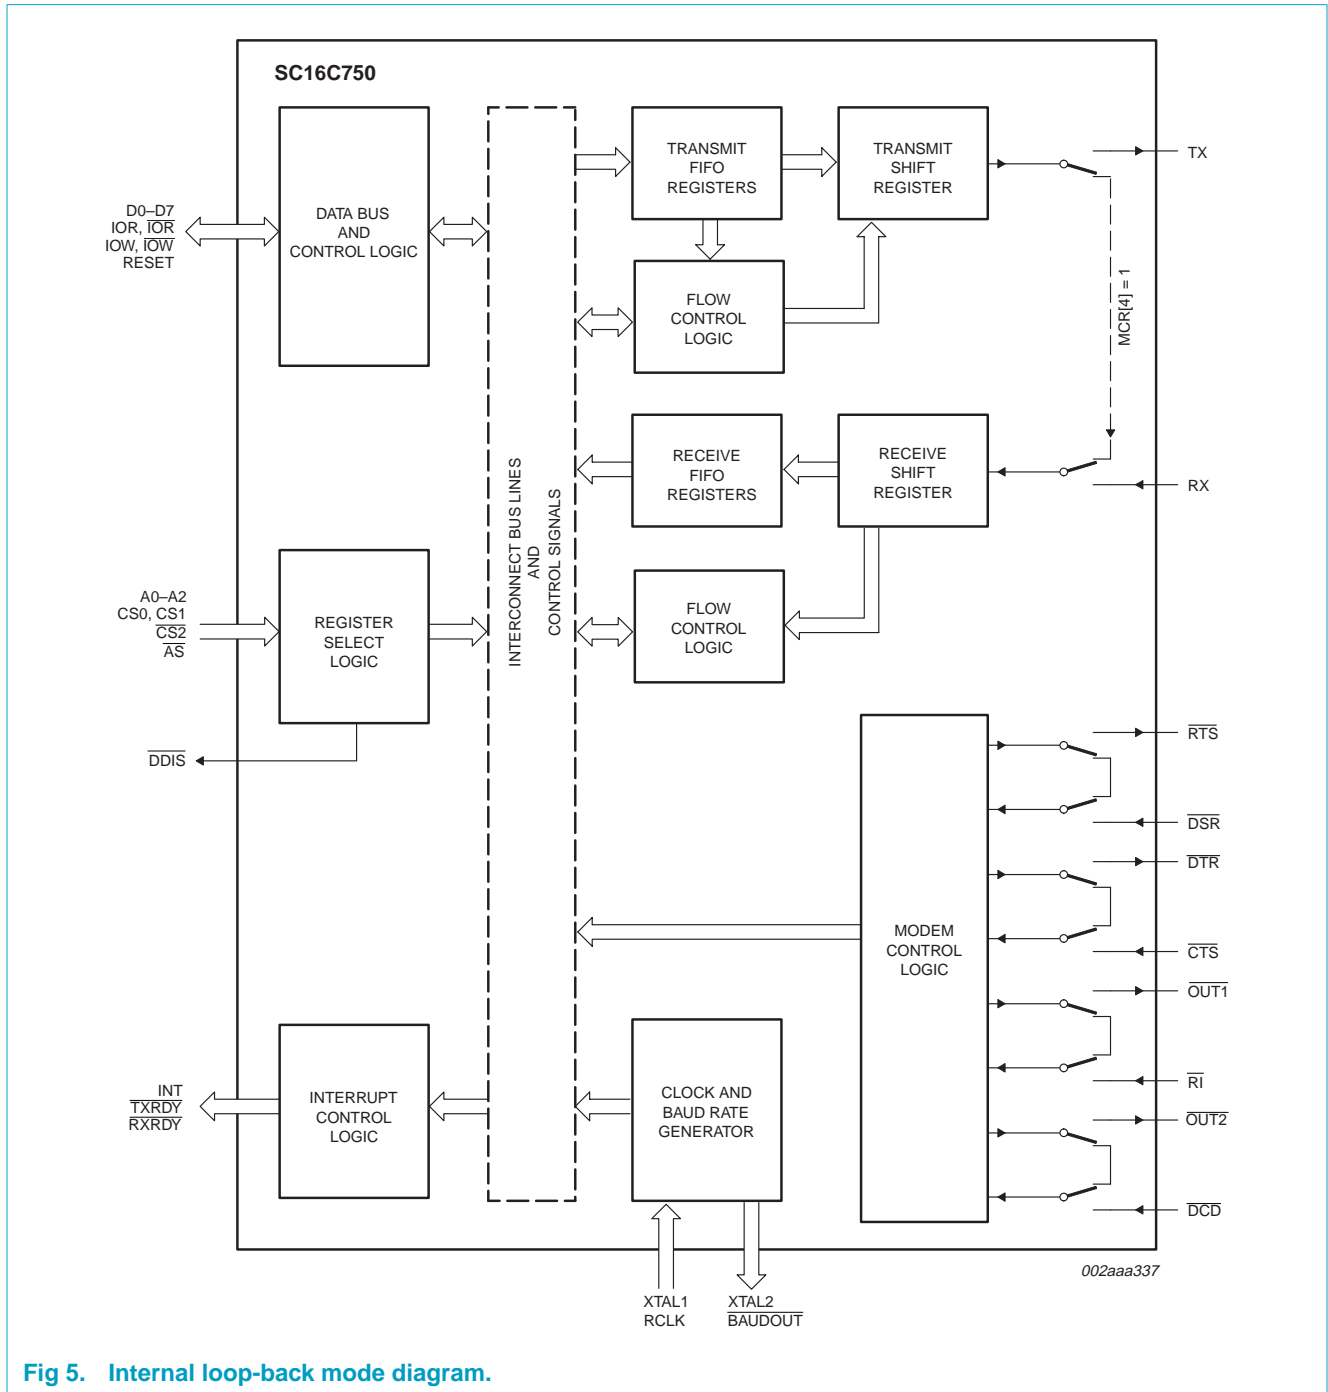

Fig 5. Internal loop-back mode diagram.
The internal loop-back capability allows on-board diagnostics. In the loop-back mode, the normal modem interface pins are disconnected and reconfigured for loop-back internally. MCR[0-3] register bits are used for controlling loop-back diagnostic testing. In the loop-back mode, OUT1 and OUT2 in the MCR register (bits 2-3) control the modem  $\overline{RI}$  and  $\overline{DCD}$  inputs, respectively. MCR signals  $\overline{DTR}$  and  $\overline{RTS}$  (bits 0-1) are used to control the modem  $\overline{CTS}$  and  $\overline{DSR}$  inputs, respectively. The transmitter output (TX) and the receiver input (RX) are disconnected from their associated interface pins, and instead are connected together internally (see Figure 5). The  $\overline{CTS}$ ,  $\overline{DSR}$ ,  $\overline{DCD}$ , and  $\overline{RI}$  are disconnected from their normal modem control input pins, and instead are connected internally to  $\overline{DTR}$ ,  $\overline{RTS}$ ,  $\overline{OUT1}$  and  $\overline{OUT2}$ . Loop-back test data is entered into the transmit holding register via the user data bus interface, D0-D7. The transmit UART serializes the data and passes the serial data to the receive UART via the internal loop-back connection. The receive UART converts the serial data back into parallel data that is then made available at the user data interface D0-D7. The user optionally compares the received data to the initial transmitted data for verifying error-free operation of the UART TX/RX circuits.